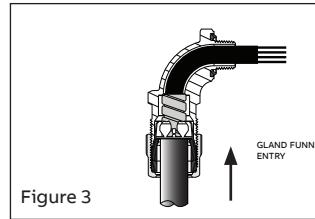

Figure 3
- Feed cable through the gland funnel entry and push until cable armor hits armor stop (Figure 3). CAUTION: mispositioned cable armor may result in improper cable armor grounding. If conductor will not pass through the fitting hub, inner jacket may need to be stripped from cable to pass through the fitting hub. Leave at least 1/4" of the inner jacket protruding out of the cable armor (Figure 4). Larger conductors may require the use of wire lubricant to ease the passage through the elbow